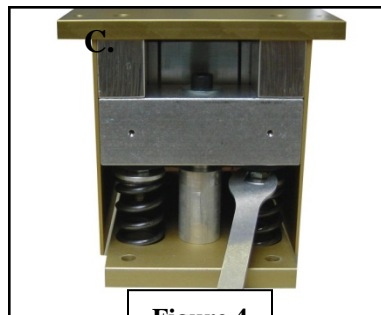

Figure 4
- B. Use the M6 spanner wrench (included) to turn the adjustment nuts located on top of the support springs (see Figure 4). Turning the wrench to the RIGHT lowers the modules and INCREASES the upper gap (between the central stopper nut and the cross brace). Turning the wrench to the LEFT raises the modules and DECREASES the upper gap.